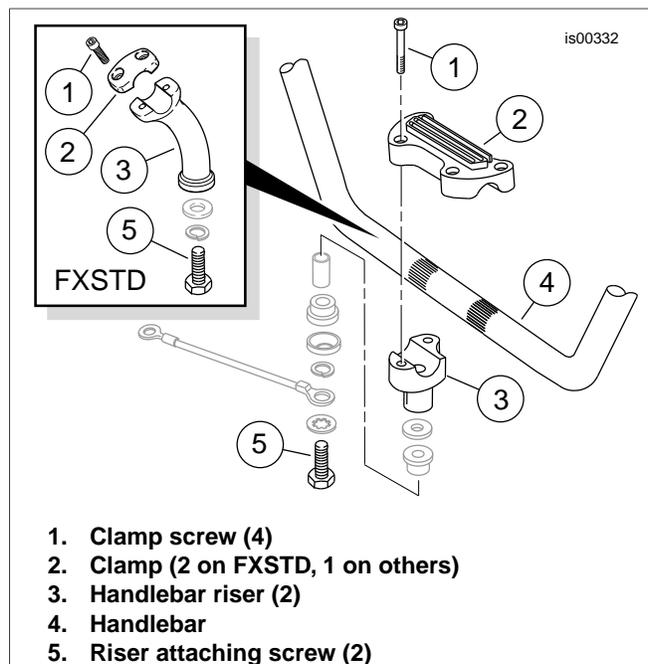

Figure 2. Handlebar Clamps and Risers
11. See Figure 2. Remove and discard the screws (1) that fasten the handlebar upper clamp or clamps (2) to the risers (3). Discard the clamps. Remove the handlebar (4) from the motorcycle.